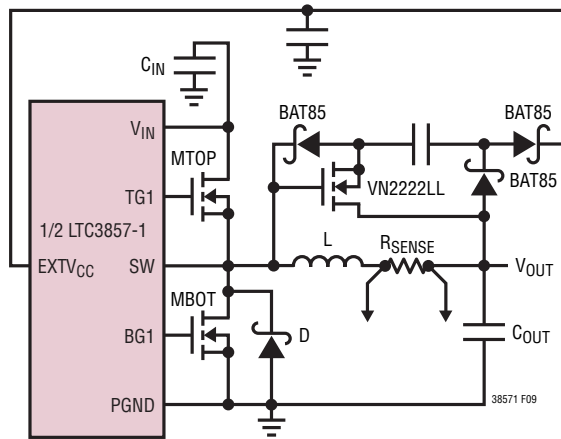

Figure 9. Capacitive Charge Pump for EXTVCC
4.  $EXTV_{CC}$  Connected to an Output-Derived Boost Network. For 3.3V and other low voltage regulators, efficiency gains can still be realized by connecting  $EXTV_{CC}$  to an output-derived voltage that has been boosted to greater than 4.7V. This can be done with the capacitive charge pump shown in Figure 9. Ensure that  $EXTV_{CC} < V_{IN}$ .